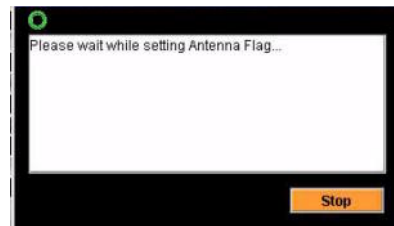

Figure 5-12 Setting Antenna Flag Window
- a. First, parameters are sent to the PacketWave 200; then the unit is reset and the antenna alignment flag is set. This takes a few minutes of time, during which the window shown in Figure 5-12 will be displayed.